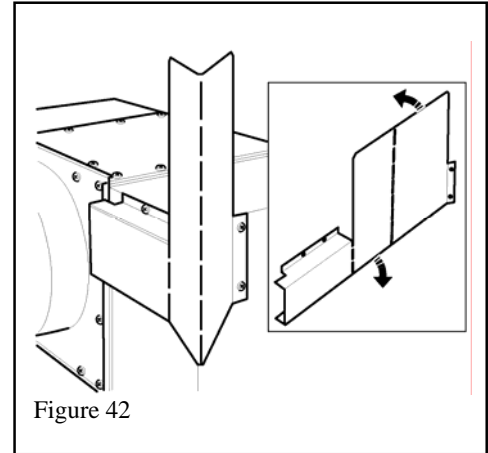

Figure 42
1. Remove the two screws at each of the rear top corners of the appliance. See figure 42.
2. Bend the spacers as shown in figure 42.
3. Screw the spacers to the rear of the appliance using the screws just removed. See figure 42.
4. Bend the side wings of the spacers to align the two holes in each spacer with those in the appliance sides. secure the spacers using the screws just removed. See figure 42.